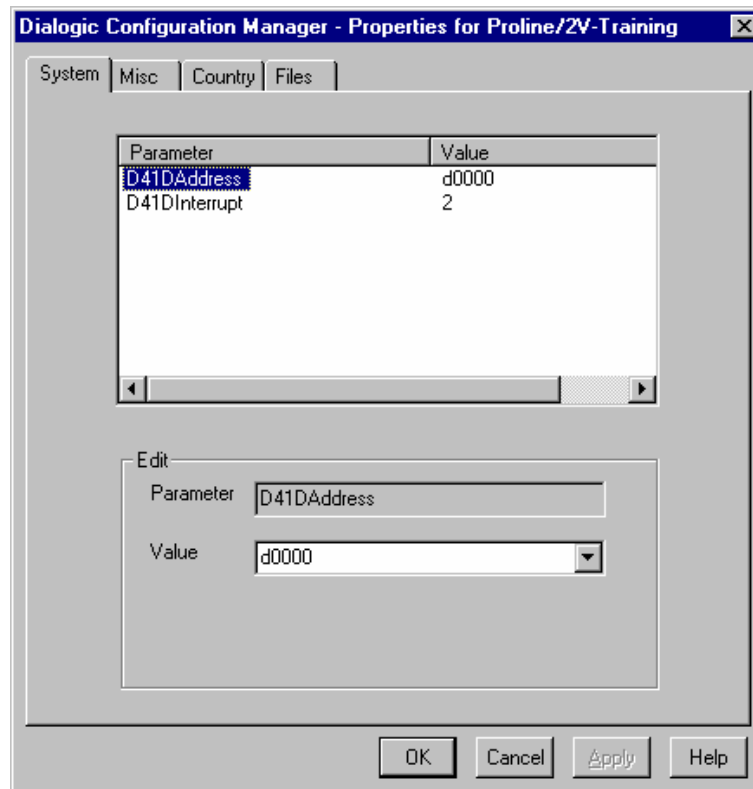

Figure B.15. Dialogic System Properties
5. This opens the **Properties** dialog box for the telephony card, as shown in **Figure B.15**. On the **System** tab, select the correct memory address from the **Parameter** field. In this case it is "d2000", as shown in Figure B.15. Also choose the same interrupt number that was chosen during the actual card installation.